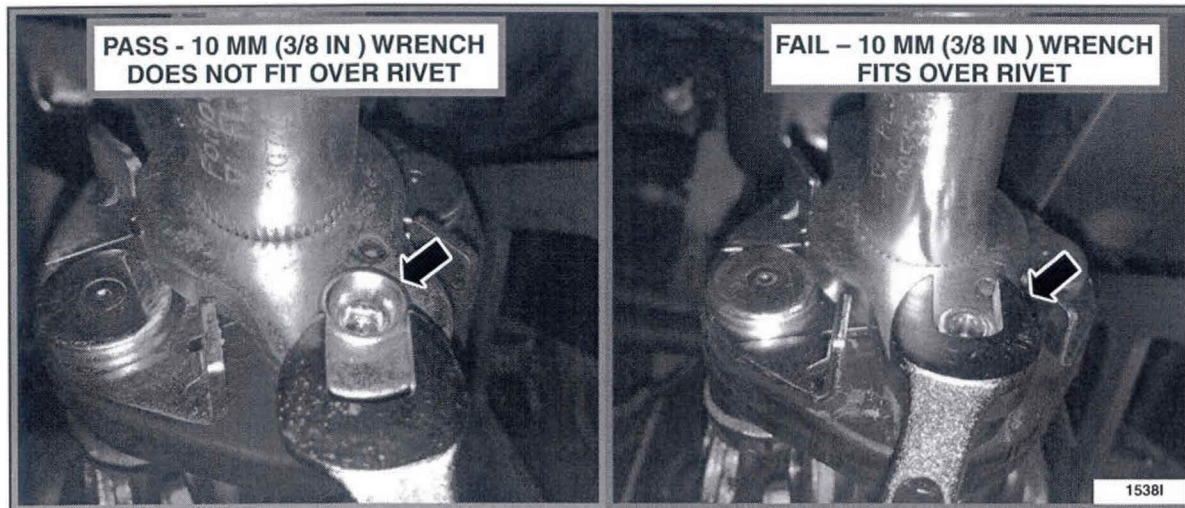

FIGURE 3
To confirm that the upper intermediate steering shaft needs replacement, dealers must email a photo similar to Figure 3 in Attachment III showing details of the failed inspection part to the SSSC at [15S17@Renkim.com](mailto:15S17@Renkim.com). In the email please include dealer P&A code, VIN, dealer contact name and phone number. The SSSC will contact the dealer with any questions or to advise the part has been ordered.
**NOTE:** A photo showing details of the failed inspection part similar to Figure 3 above is required if a *new* upper intermediate steering shaft is needed. See dealer bulletin "Attachment II" for further information.